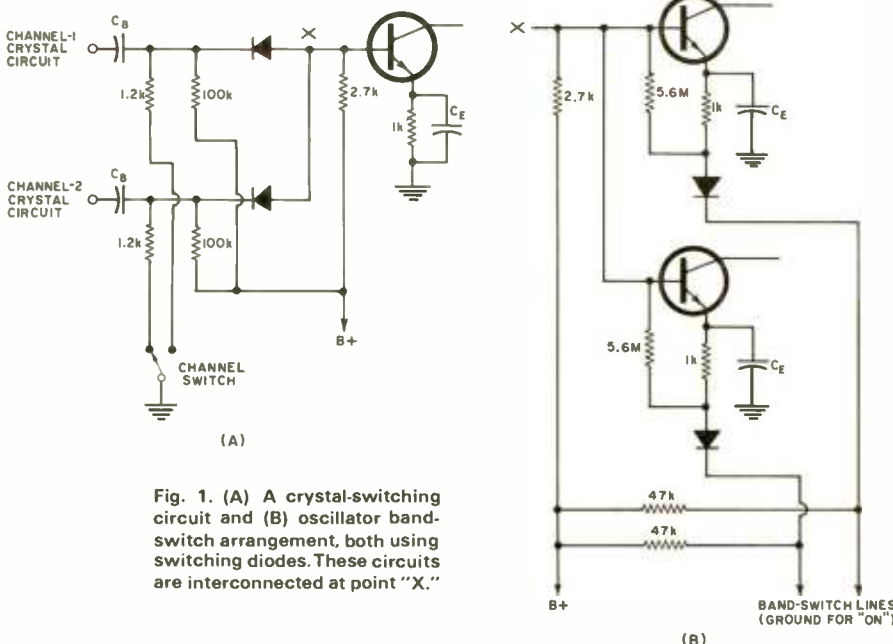

Fig. 1. (A) A crystal-switching circuit and (B) oscillator band-switch arrangement, both using switching diodes. These circuits are interconnected at point "X."
Fig. 1. The automatic bartender is composed of five units: (1) the control register, (2) the logic unit, (3) the liquor-bottle racks, (4) drink-dispensing head, and (5) compressor.
These various switches are shown in Figs. 1 through 4. (In all circuits, C_E should have a capacitive reactance of from 1 to 5 ohms.) The two band-switch lines are driven by the circuit of Fig. 4 so that the desired one is one diode drop above ground while the other is close to the supply potential due to a number of leakage paths (mostly transistor bias resistors).